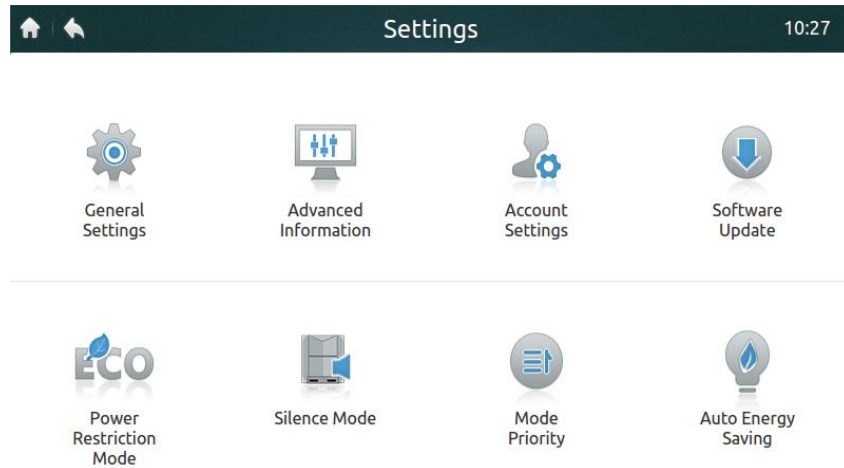
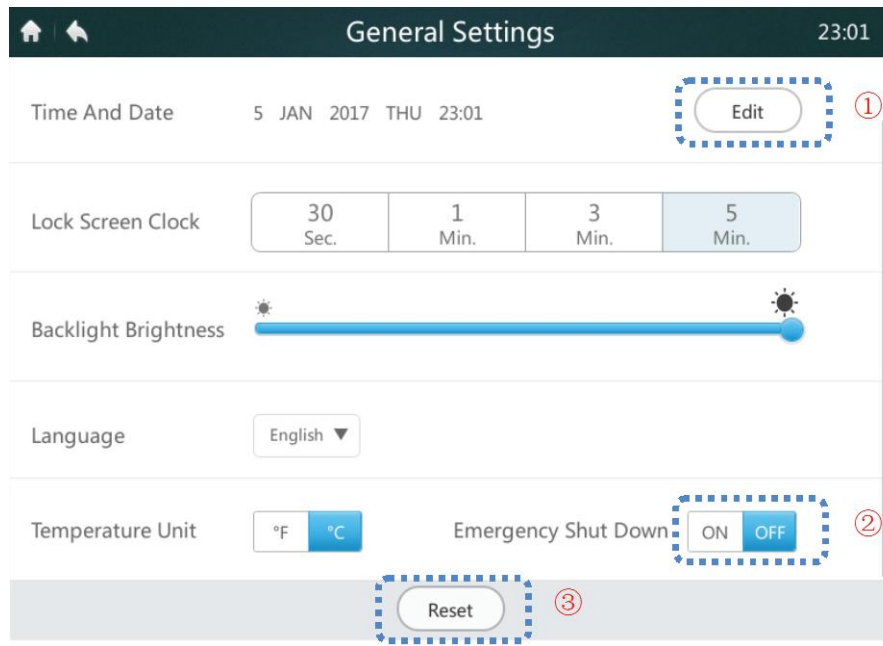
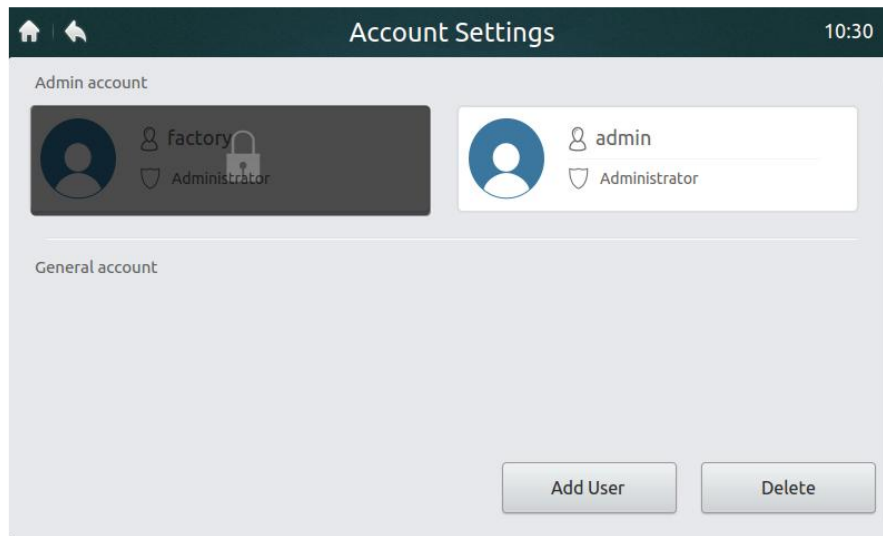

Figure 41 Homepage of Settings page
Figure 42 Homepage of General Settings
Figure 47 Homepage of Account Settings page
1. Tap "General Settings" in Figure 41 to enter the interface, as shown in Figure 42.
2. Tap the "Edit" button marked "1" in Figure 42 to access the interface below.
If an emergency occurs, tap the button marked "2" in Figure 42 to enable emergency shutdown. The central controller will send a shutdown command to all the IDUs and lock the remote controller. The IDUs can be restored only after the emergency switch is disabled.
Only the installation technician or administrator can enable the reset function. Tap the "Reset" button marked "3" in Figure 42 to delete user information (including the schedules, groups, common user accounts and reports), and restore the default settings (including the date, screen locking time, backlight, language, temperature and daylight saving time). The prompt will be displayed by tapping the "Reset" button. To confirm the operation, tap the "Yes" button to continue and restart the central controller. Tap the "No" button to cancel the reset.
2. Tap "Advanced Information", as shown in Figure 41, to enter the interface below. You can select to view the ODU or IDU parameters. For details, see Tables 12 and 13.
2. Tap "Account Settings", as shown in Figure 41, to enter the interface, as shown in Figure 47.
3. Tap the "Add User" button in the lower right corner of Figure 47 to display the interface below. Enter the user name and password (enter the password twice), and then tap the "Add" button to save the setting. Tap the "Cancel" button to cancel the setting.
4. Tap the "Delete" button in the lower right corner, as shown in Figure 47, to display the icon in the top right corner of common user account, as shown below. Tap the icon in the top right corner of the user to be deleted.